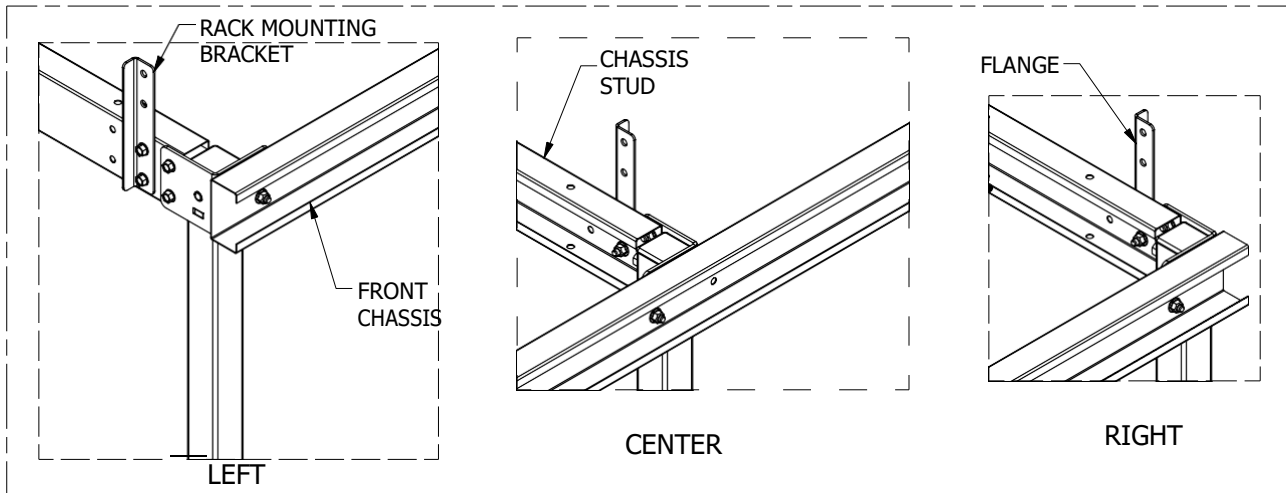
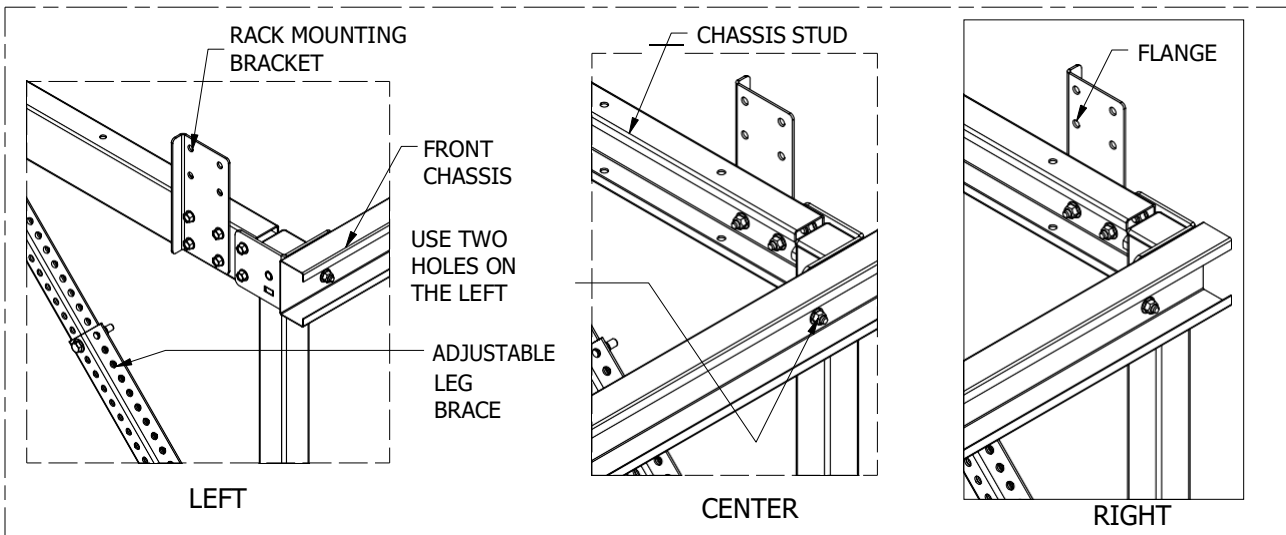
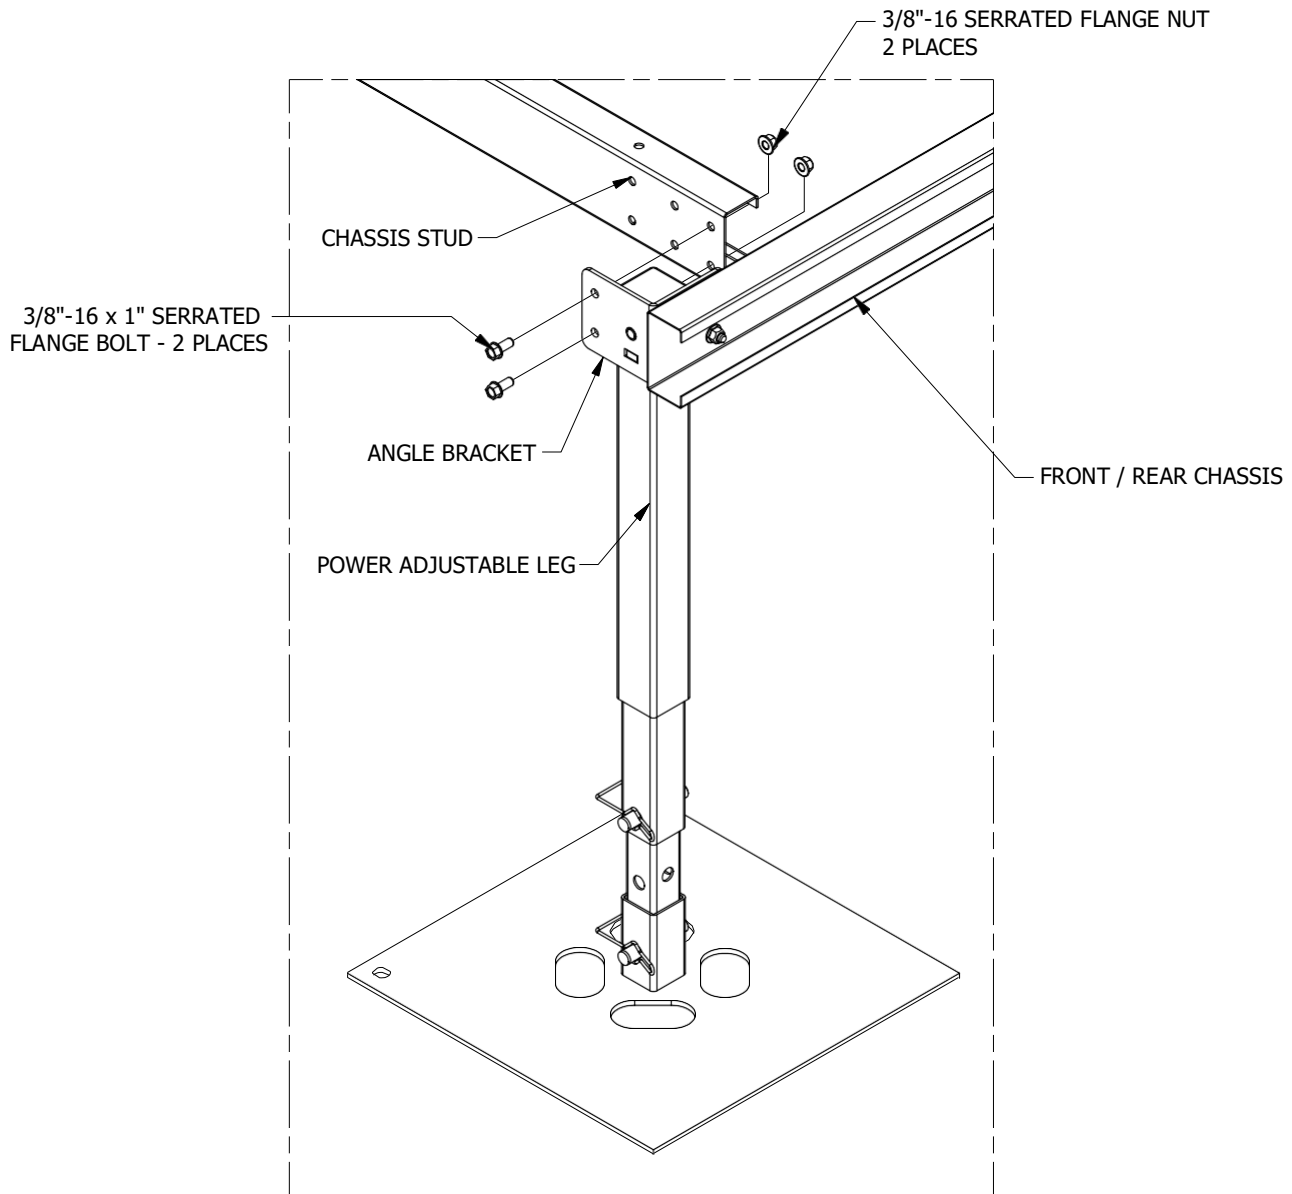

Figure 5: Chassis Assembly - STD
Figure 6: Chassis Assembly - HD / XHD / HSL
Figure 7: Chassis Stud to Angle Bracket on Power Adjustable Leg
3. Place three Power Adjustable Legs just inside the Front Chassis and the other three Power Adjustable Legs just inside the Rear Chassis. The legs will create the corners of the PowerPlatform. Note that there are four pre-punched holes in the center of the chassis. The two holes on the left should be used. Refer to Figure 5 on next page. Figure 6 shows similar detail for the HD/XHD/HSL version Powerplatform.
4. Place three Chassis Studs perpendicular to the Front & Rear Chassis aligned with the Power Adjustable Legs near the corresponding pre-punched bolt holes. Note how Chassis Studs are oriented in Figure 5 & 6 above and Figure 7 on next page.